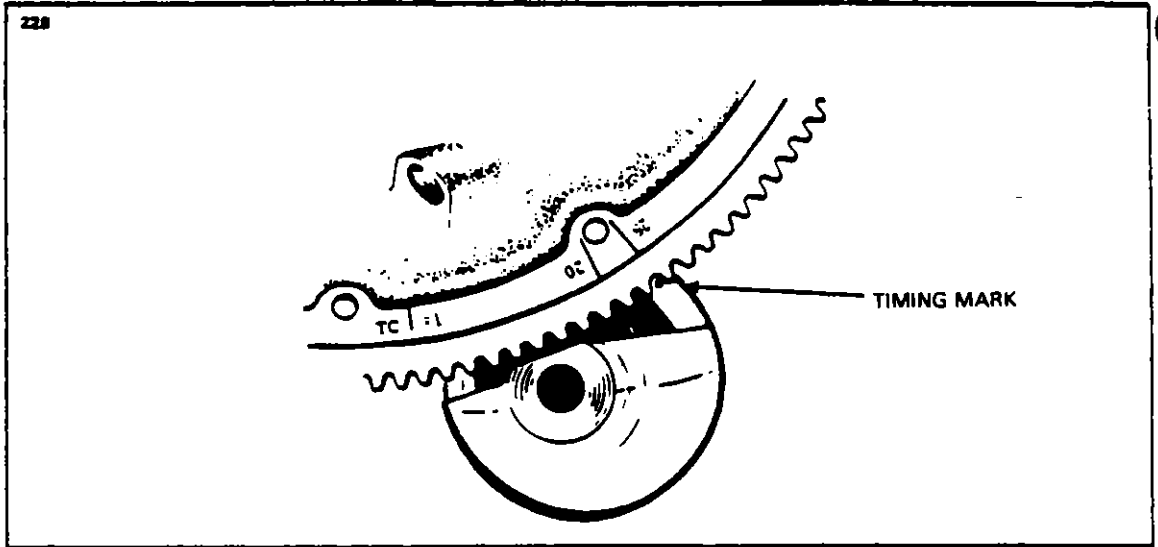

FIGURE 7-15. ENGINE TIMING MARKS
- b. Remove the top spark plug from No. one cylinder. Place the thumb of one hand over the spark plug hole and rotate the crankshaft in direction of normal rotation until the compression stroke is reached. The compression stroke is indicated by a positive pressure inside the cylinder tending to lift the thumb off the spark plug hole. In this position both valves of No. one cylinder are closed. Turn the crankshaft opposite to its normal direction of rotation until it is approximately 35 degrees BTC on the compression stroke of No. one cylinder. Rotate the crankshaft in its normal direction of rotation until the 25 degrees mark on the back of the starter gear and the crankcase parting surface are aligned, or the marks on the front of the starter ring gear and the drilled hole in the starter housing align. (Refer to Figure 7-15 )